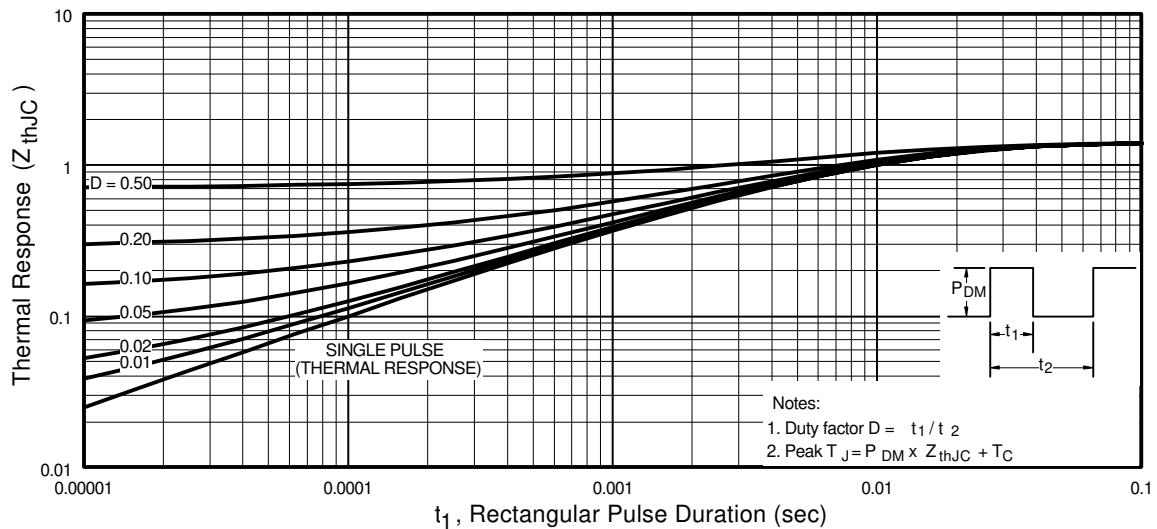

Fig 11. Maximum Effective Transient Thermal Impedance, Junction-to-Case
- ① Repetitive rating; pulse width limited by max. junction temperature. (See fig. 11)
- ② V_{DD} = 25V, starting T_J = 25°C, L = 470μH